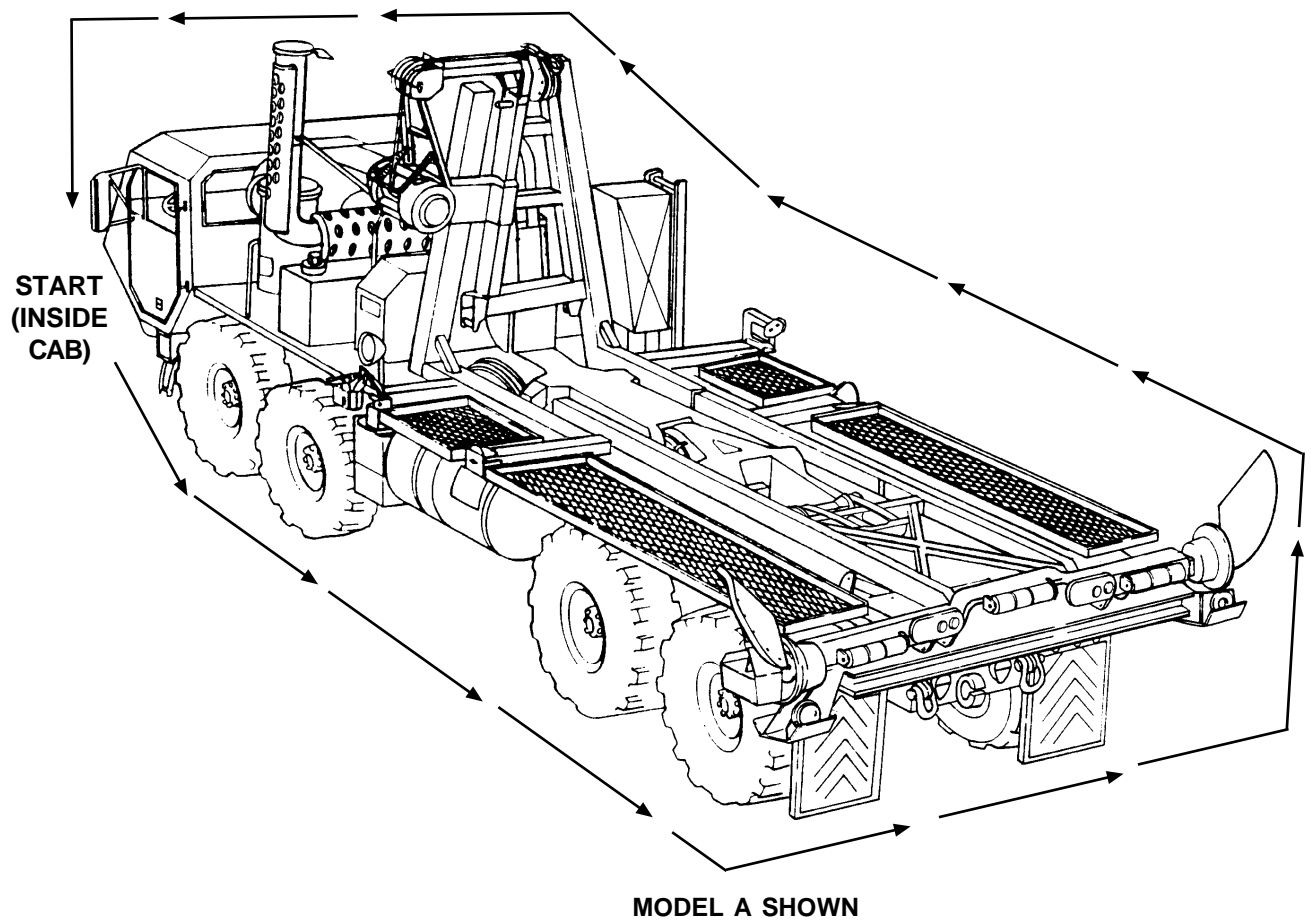

Figure 2-5. The arrows indicate the sequence for performing PMCS procedures, as listed in Table 2-1.
- a. Operator/Crew PMCS procedures are provided in Table 2-1 (p. 2-14). Always perform PMCS procedures in the order listed; see Figure 2-5 (p. 2-13). Once the procedures become routine, problems can be easily recognized.
- (1) *Item No.* The item number column of your PMCS table is to be used for reference. When completing DA Form 2404, include the item number for the check/service indicating a fault. Item numbers also appear in the order that you must do checks and services for the intervals listed.